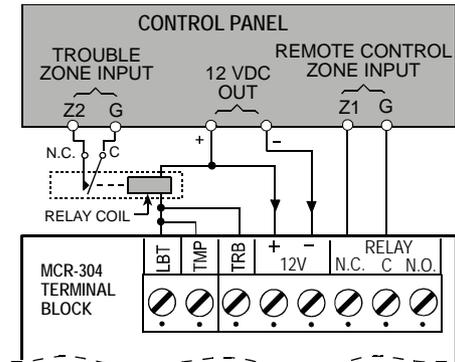

**Figure 5.** General Wiring Diagram
- If you wish to separate between status alerts, connect each status outputs of the MCR-304 (**TAMP**, **LBT** and **TRB**) to a separate zone input of the control panel, as shown in Figure 5.